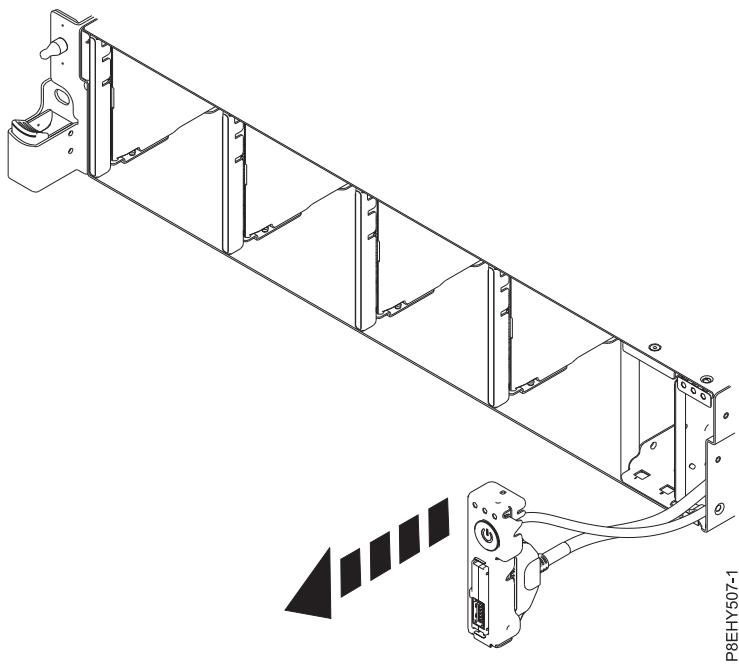

Figure 106. Pull the power switch from the system
9. Pull the power switch from the system. See Figure 106.